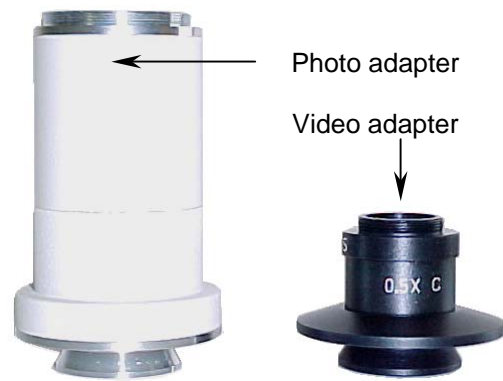

Fig. 3
Model B1-223 comes equipped with a vertical port on the top of the head which permits the attachment of a photographic, or reflex type camera through use of the corresponding adapters. (Fig. 3)
A. To adapt a photographic camera, an adapter tube is required. (Fig. 3). This adapter tube includes a 2.5X photographic lens which measures the parfocality correctly between the images of the binocular and vertical ports. The adapter tube also requires a T mount adapted to fit the T threads of all reflex photographic camera brands on the market.
B. To adapt a video camera, an adapter tube is required (Fig. 3). This adapter contains a 0,5X lens for video that measures the correct parfocality between binocular, and the vertical port images. The vertical port is responsible for the images appearing on the TV monitor. The adapter tube also includes a "C" knurled ring and a "CS" type ring to accommodate different types of video cameras.